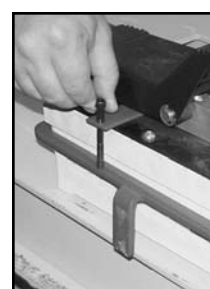

Figure 20
4. Attach storage strap to bracket using 1/4 x 20 x 2 1/2" socket head cap screws. (See Figures 20 and 21.)